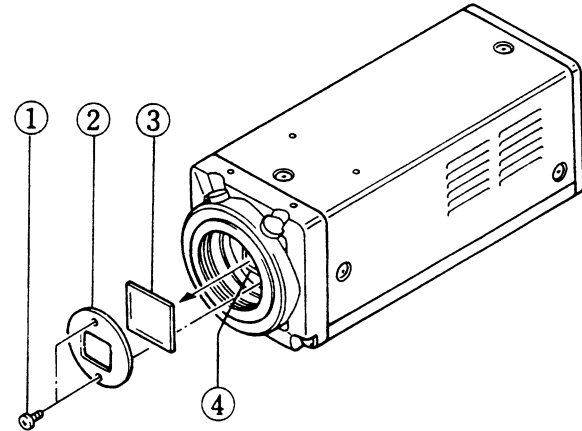

Fig. 6
- (1) Remove two screws ① shown in Fig. 6, and filter holder ② will come off.
- (2) Remove the IR cut filter ③ from filter frame ④.
- (3) Then, reinstall and secure filter holder ② with two screws ①.